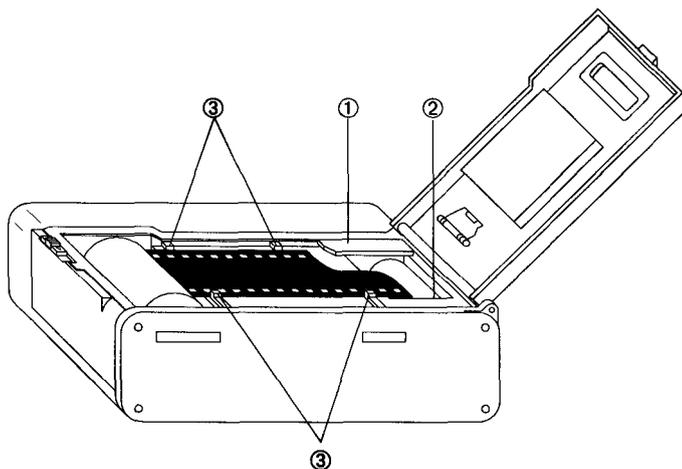

Figure 4. Loading film.
①-Latch.
Step 5: Insert the film cartridge into the chamber and pull the film across, so that the top edge passes under the film leader guide as shown in Figure 4.